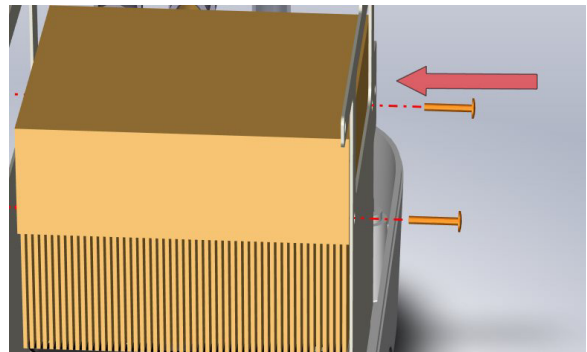

Figure 130 - Step 2 Install 2 screws attaching TE module to the front bracket
2. Install the TE Module onto the front bracket with two #8-32 x 3/8" truss-head screws (Figure 130).